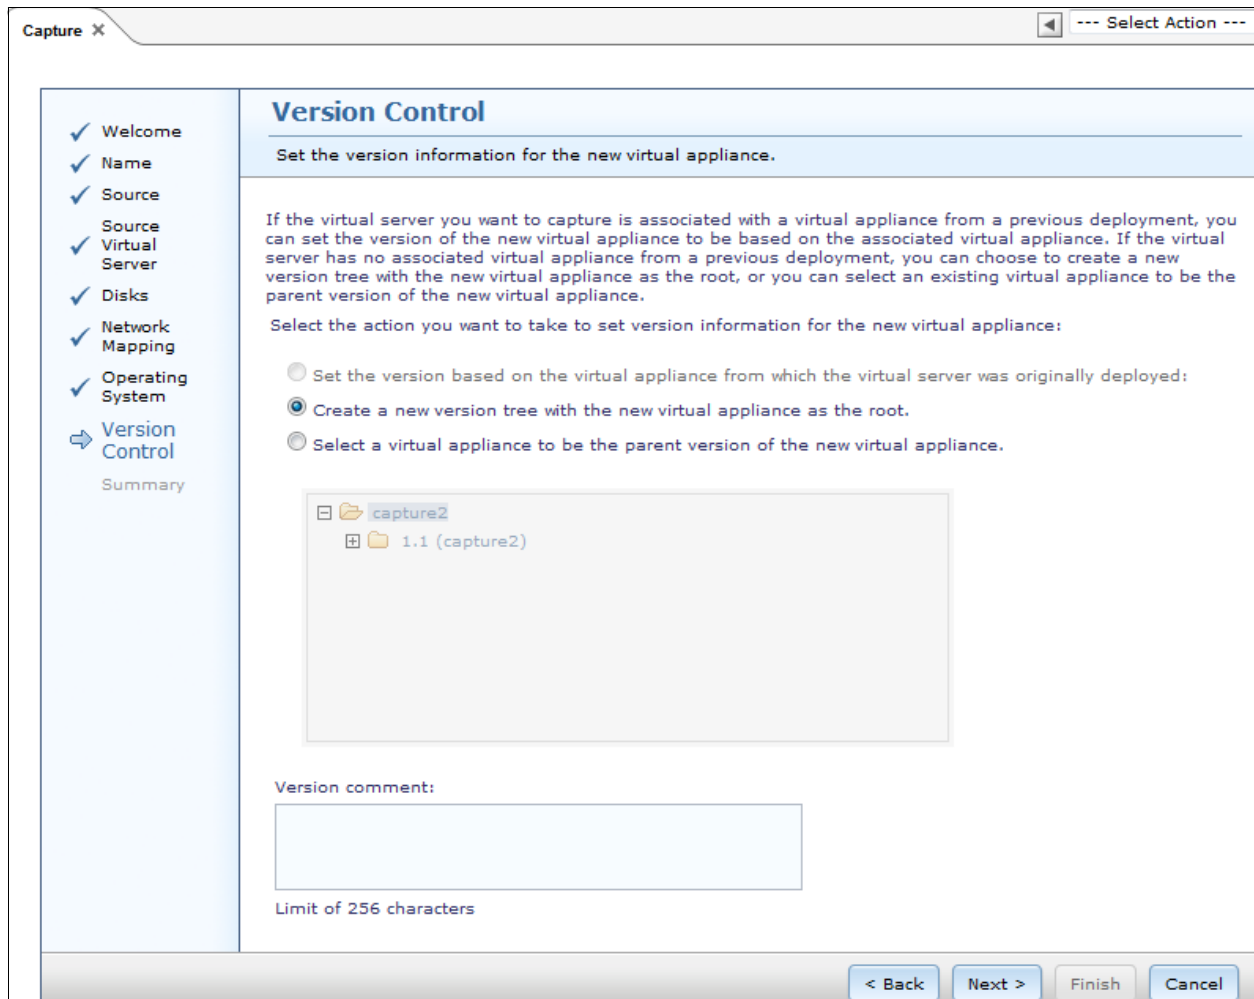

Figure 3-86 VMControl Capture wizard: Version Control
19. In the Version Control window, confirm the version control information for the new virtual appliance, as shown in Figure 3-86. You also can choose **Create a new version tree with the new virtual appliance as the root** if you want to establish a new group with the new virtual appliance. If you want to use the existing virtual appliance and assign that appliance as a parent version, select **Select a virtual appliance to be the parent version of the new virtual appliance**. Click **Next**.